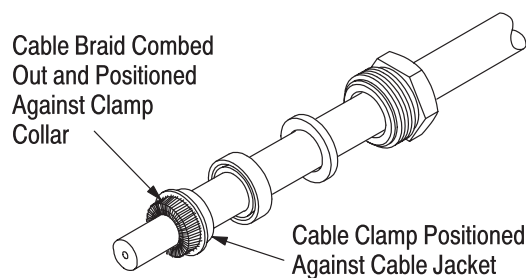

Figure 3
2. Slide clamp over cable braid and position it against the cable jacket. Comb out the cable braid and fold the braid over the clamp. Trim the braid so that it is positioned against the clamp collar, as shown in Figure 3.